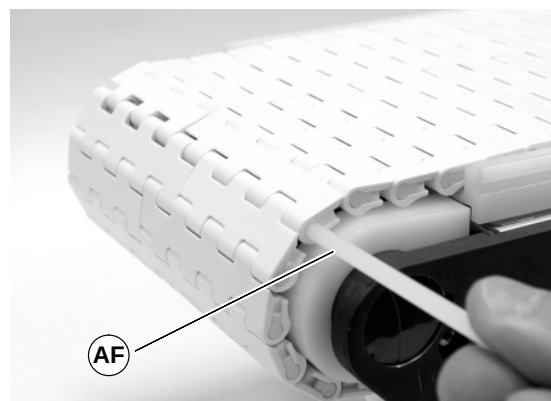

Figure 27
4. Splice the belt together by pushing the plastic rod (AF of Figure 27) through the side hole.